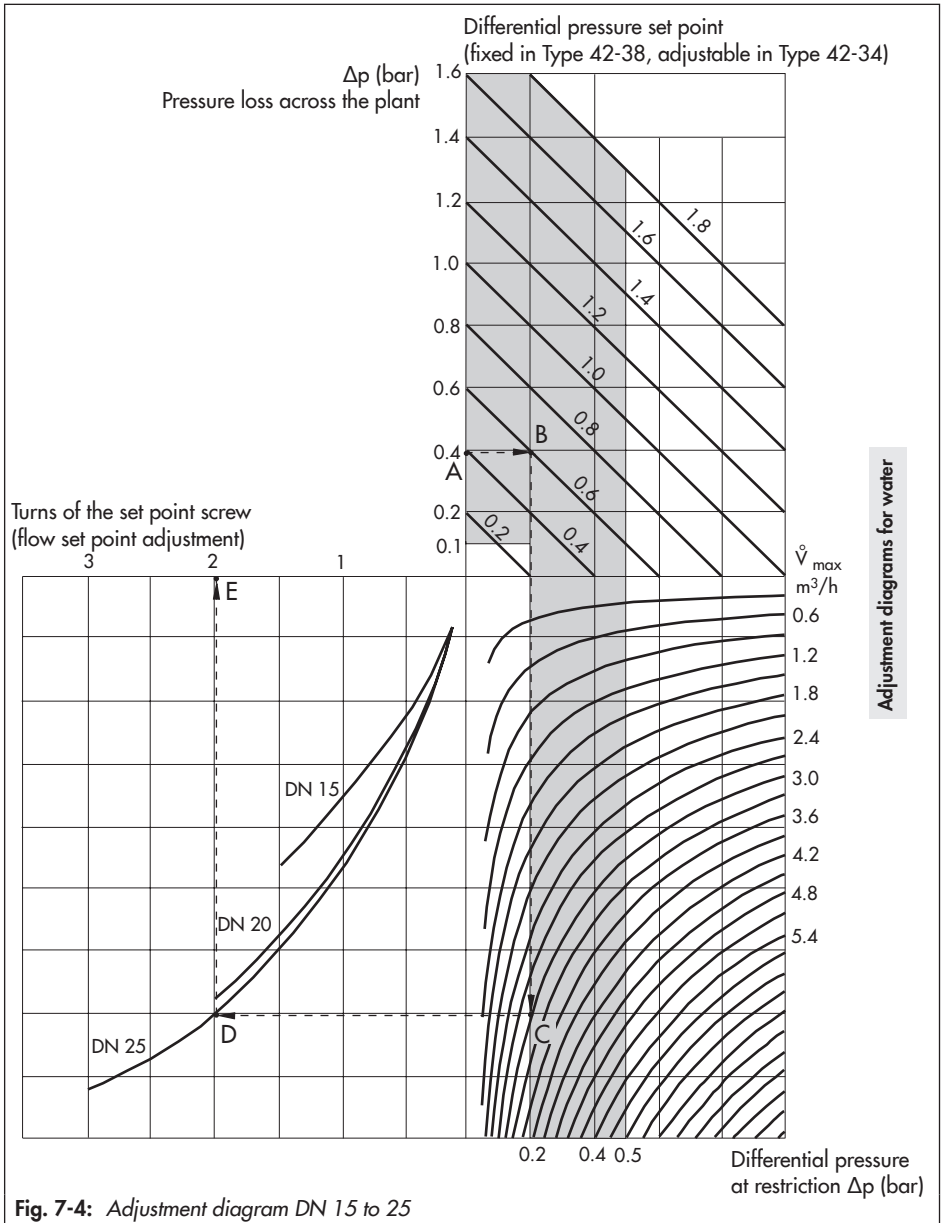
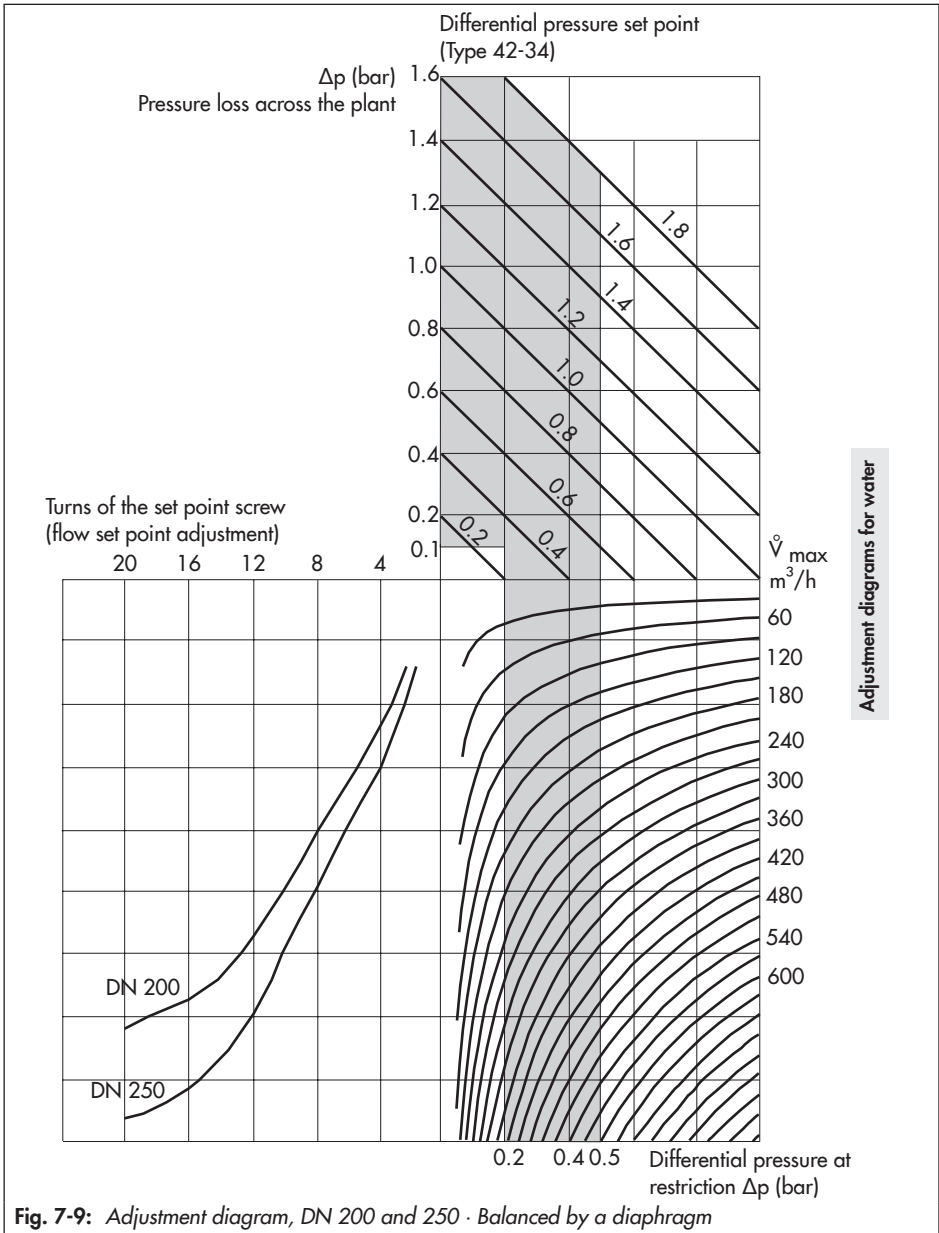

Fig. 7-4: Adjustment diagram DN 15 to 25
Fig. 7-9: Adjustment diagram, DN 200 and 250 · Balanced by a diaphragm
To adjust the flow rate limit when the pressure drop across the plant is known, use the adjustment diagrams for water (Fig. 7-4 to Fig. 7-9).
To adjust the flow rate limit when the pressure drop of the plant is known, use the adjustment diagrams for water (Fig. 7-4 to Fig. 7-9).
*The curves of the flow ranges in the following diagrams (Fig. 7-9 to Fig. 7-4) apply to 0.1, 0.2 and 0.5 bar.*
- Determine the adjustment values using the adjustment diagram Fig. 7-4 on page 7-7.
Sequence: points **A** to **E** in diagram (Fig. 7-4).
*To adjust the differential pressure according to the adjustment diagrams (Fig. 7-4 to Fig. 7-9), it must be possible to also adjust the actuator set point required in addition to the calculated value.*